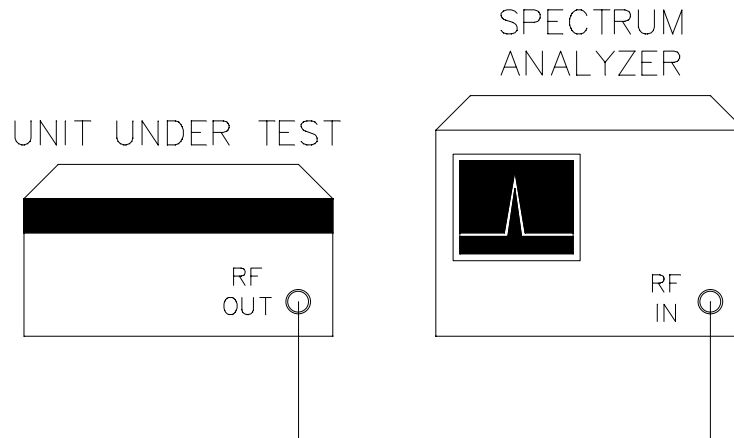

Figure 4-5. Pulse Modulation On/Off Ratio Test
1. Connect the equipment as shown in Figure 4-5. Allow 20 minutes warm-up time.